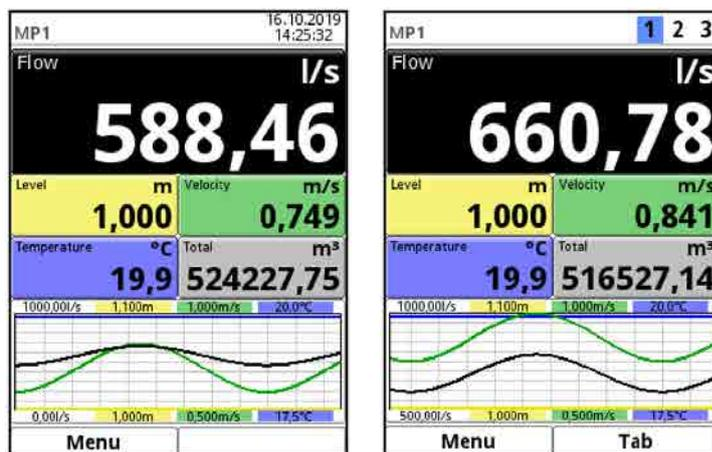

Fig. 37-2 Flow volume section selected (figure on the right side: types T4/TM)
- Date (or 1, 2, 3; see Fig. 37-2)
- Time (or 1, 2, 3; see Fig. 37-2)